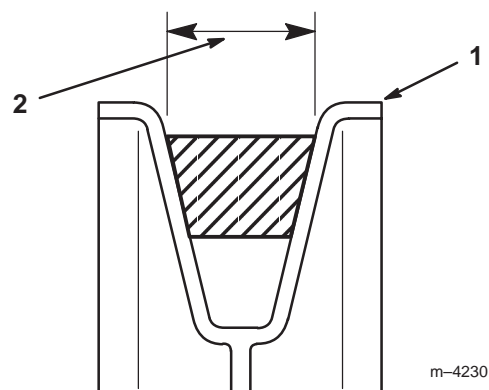

Figure 46
5. Make certain that the wide side of the PTO drive belt is toward the outside diameter of all six (6) of the pulleys (Fig. 46).